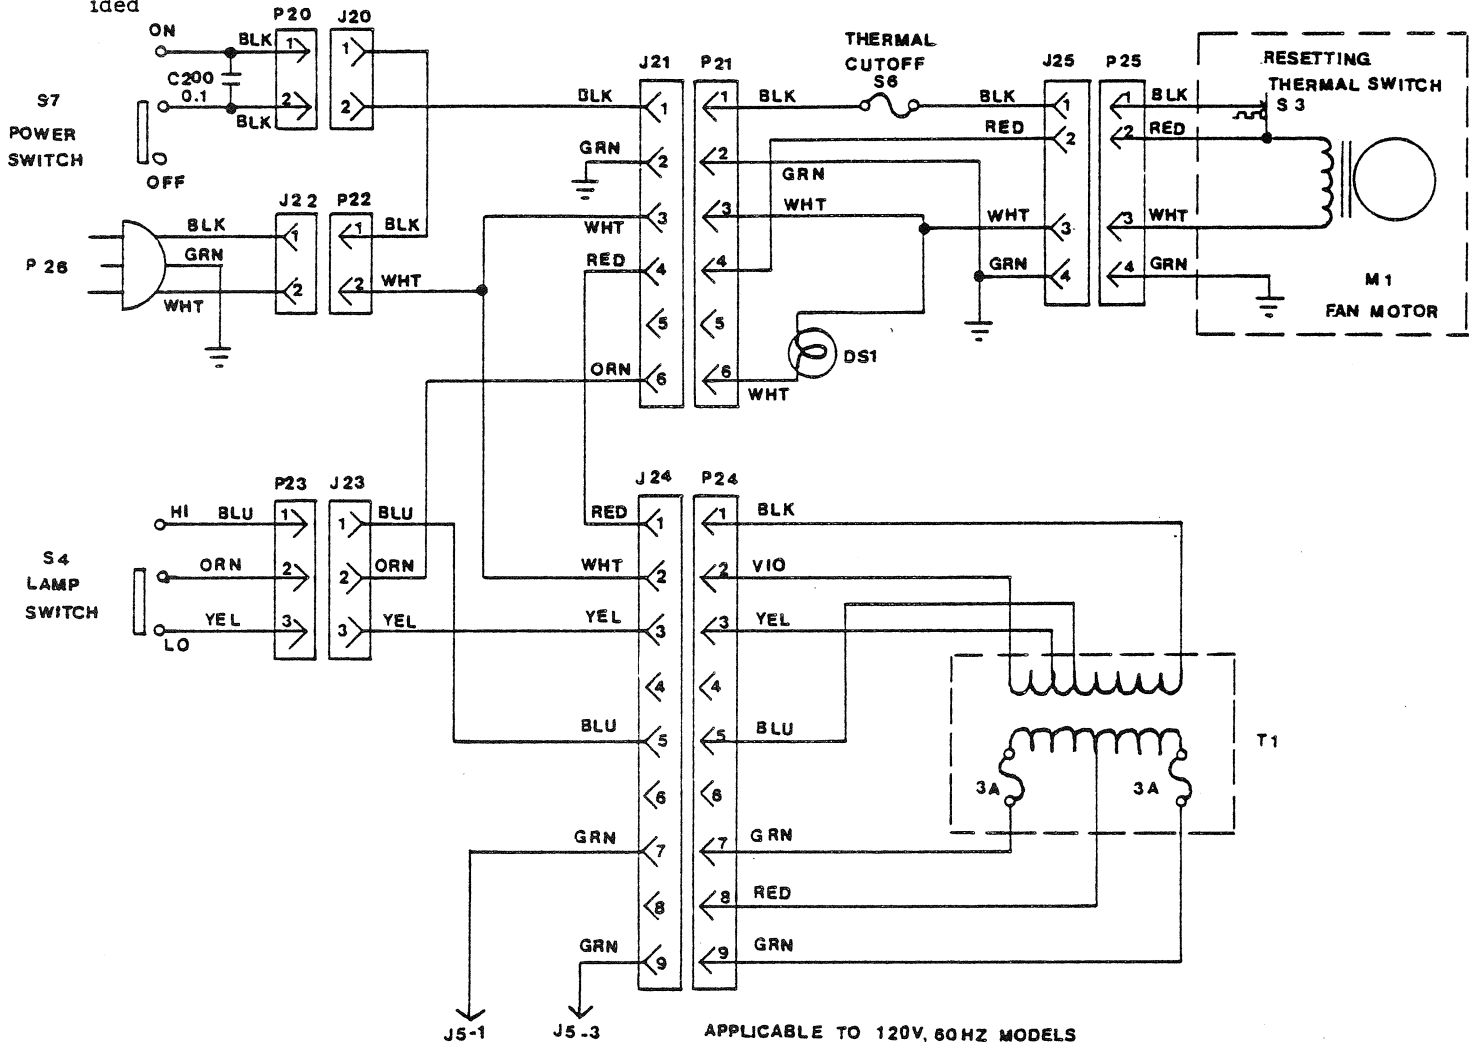

Figure 4-1, AC POWER SUPPLY
1. POWER SUPPLY 120V, 60 Hz. (Figure 4-1)